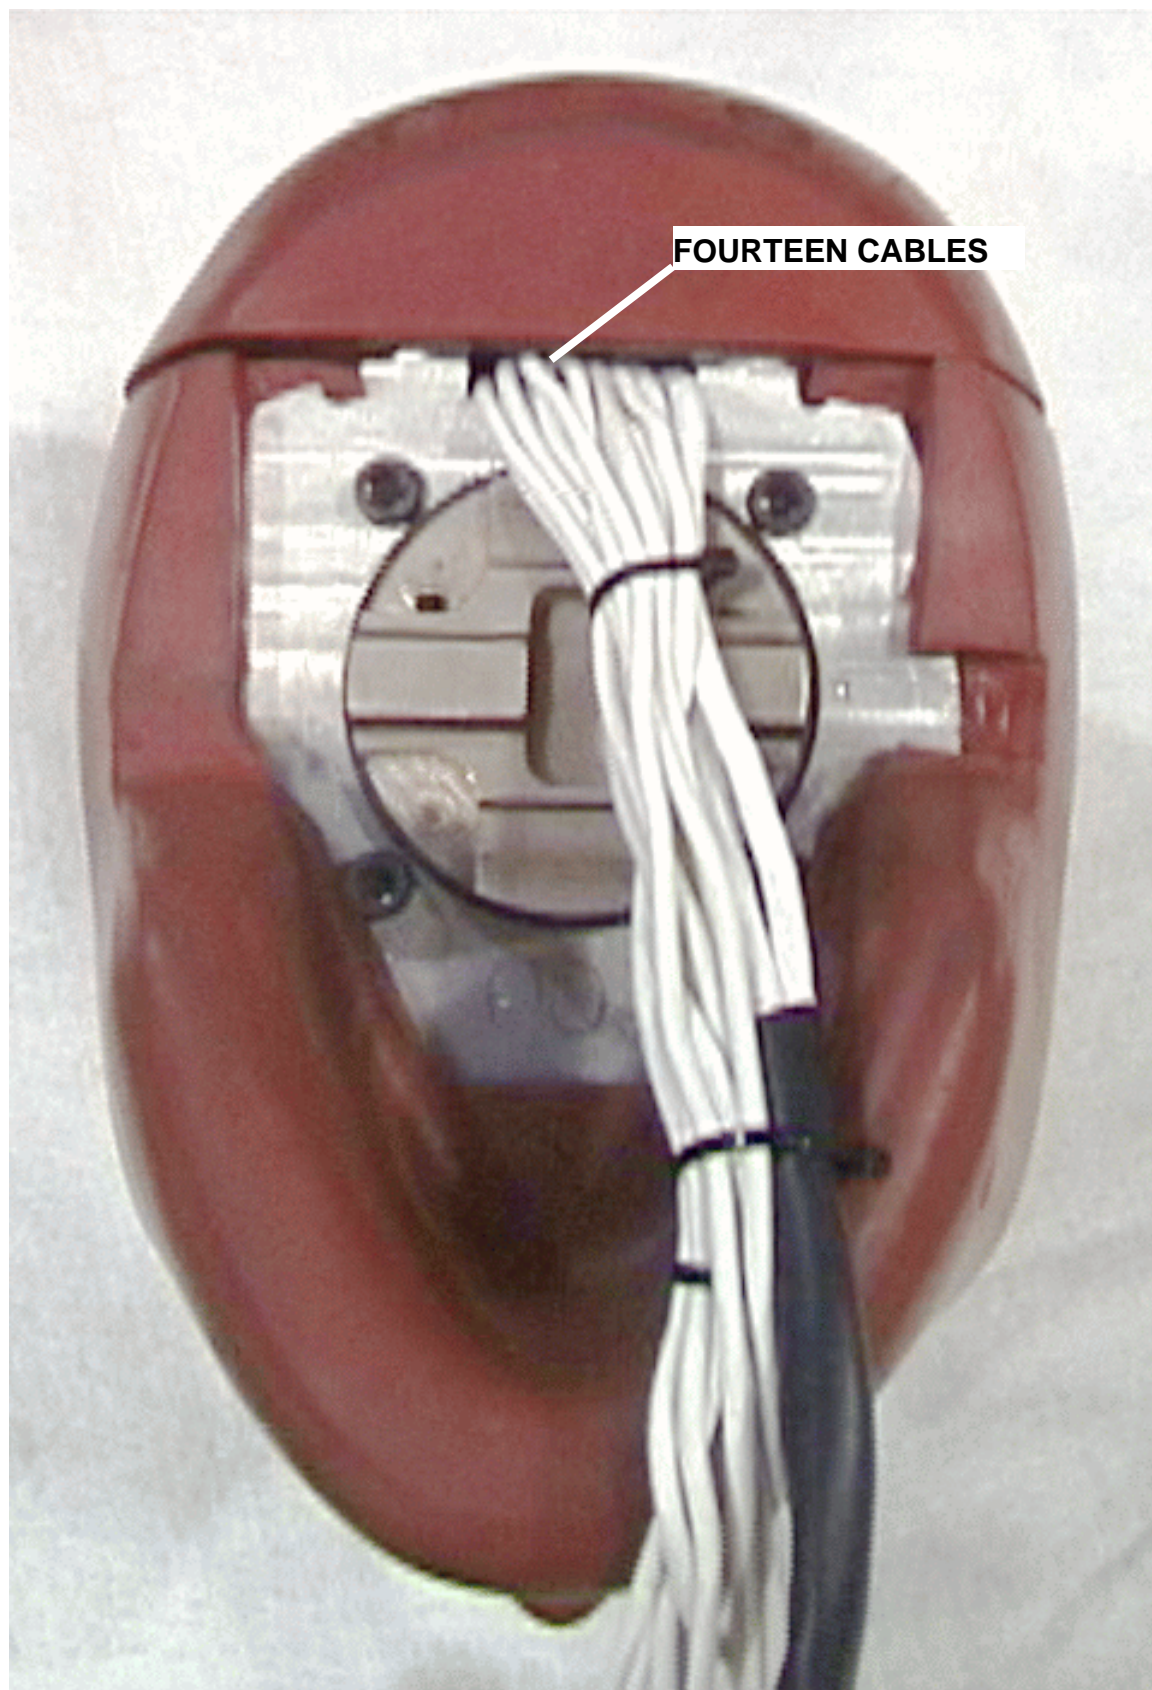

Figure 3.12 -- Cable routing with skull cap installed
13. Install the skull cap and its skin assuring the cables are not pinched and remove the duct tape (Figure 3.12).